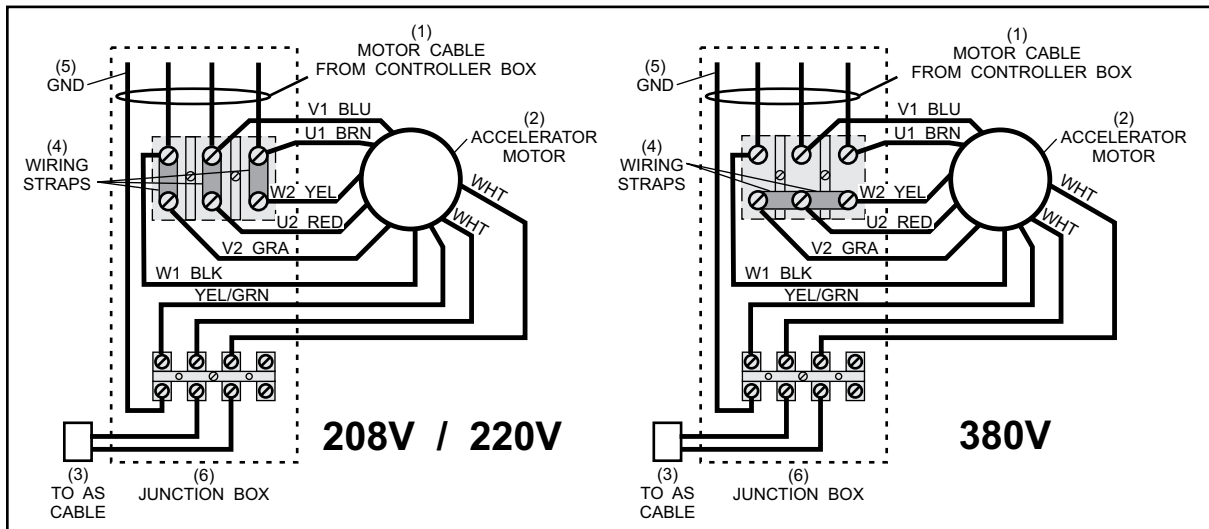

Figure 5-7. Accelerator Motor Wiring.
2. If the motor is running backward, swap any two of the three supply wires at the motor's terminal block. This will reverse the direction of the motor shaft. Refer to *Figure 5-7*.